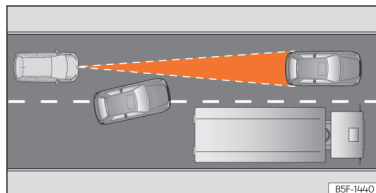

Fig. 122 Vehicle changing lanes.
- Vehicles that move into your lane, a short distance from your vehicle »» **Fig. 122.**